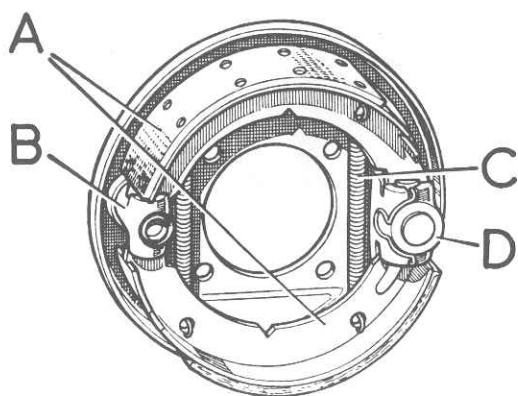

Fig. 9.9. Transmission brake assembly
- 4 Lever the end of each shoe out of the adjuster unit and then slide the other ends out of the expander unit (Fig. 9.9). Remove the shoes and return springs.